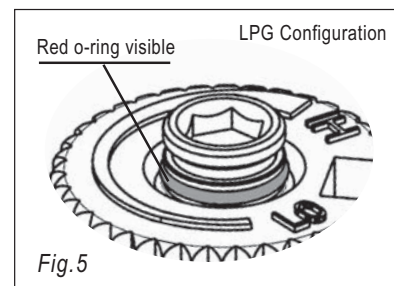

Fig.5
- 10) Verify that if the conversion is from NG to LPG, the screw must be reassembled with the red o-ring visible (Fig. 5).